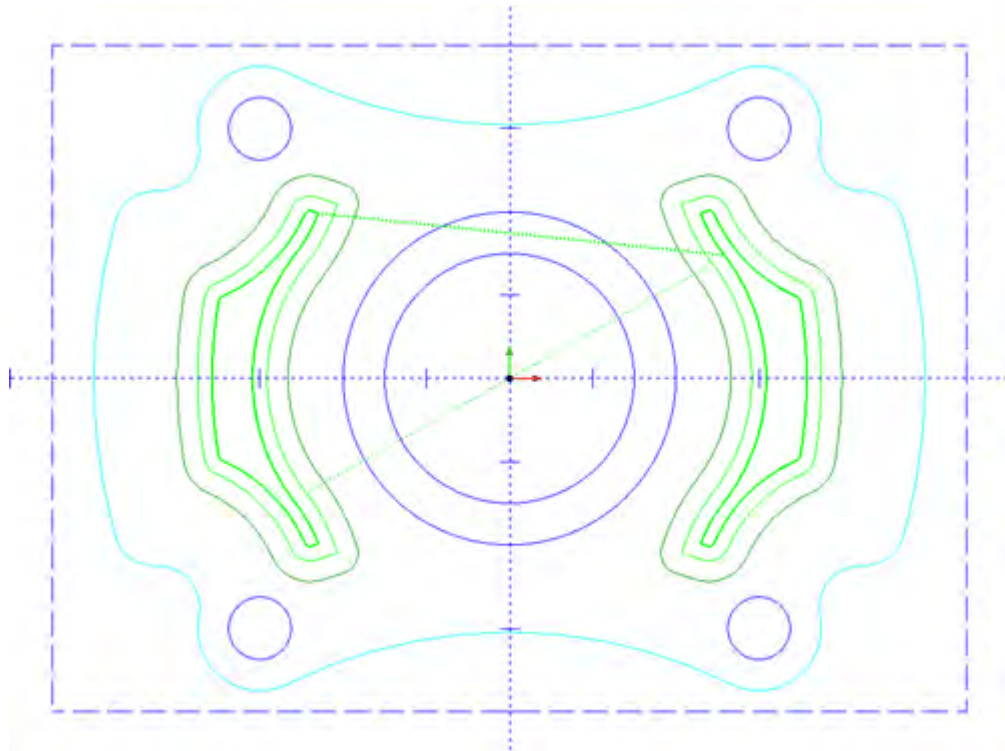

figure 24.1
24. For this example, we are going to make the entire rectangle dashed lines, to signify that this is the stock we are starting with. So next, click **Cancel** if you have not all ready done so on the rectangle function. Right click in the workspace and click **Select** to activate selection mode. While holding the Shift key on your keyboard, click on one of the edges of the rectangle and the entire rectangle should highlight. After the rectangle is selected, right click any where in the workspace and hover over **Modify Attributes** and click **Line Style**. The line style dialog will display. Click on any of the dashed lines (any but the first option) and click **OK**. Now the rectangle should change in appearance to all dashed lines (figure 24.1).